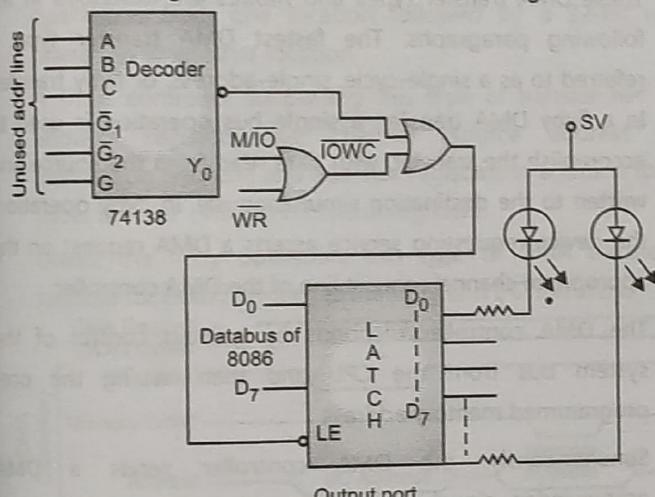

Fig. 5.5
The processor can send 8-bit or 16-bit data on input port. The interfacing of the 8-bit port and 16-bit port can be as shown in the Fig. 5.5
- For interfacing the ports the absolute decoding schemes can be used. In this the all remaining address lines can be used for decoding as shown in the Fig. 5.5.
- The control signals used are as shown in the Fig. 5.5.